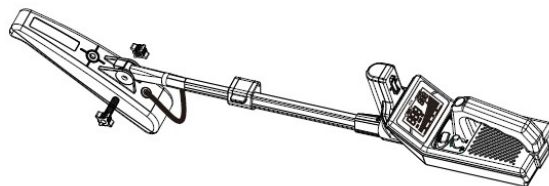

Figure 12
- 3) Loosen the lock button on the lower link and remove the bolt. Press and install the lower link on the antenna plate and lock it (see Figure 12). Note that the rubber gasket should not be missing.